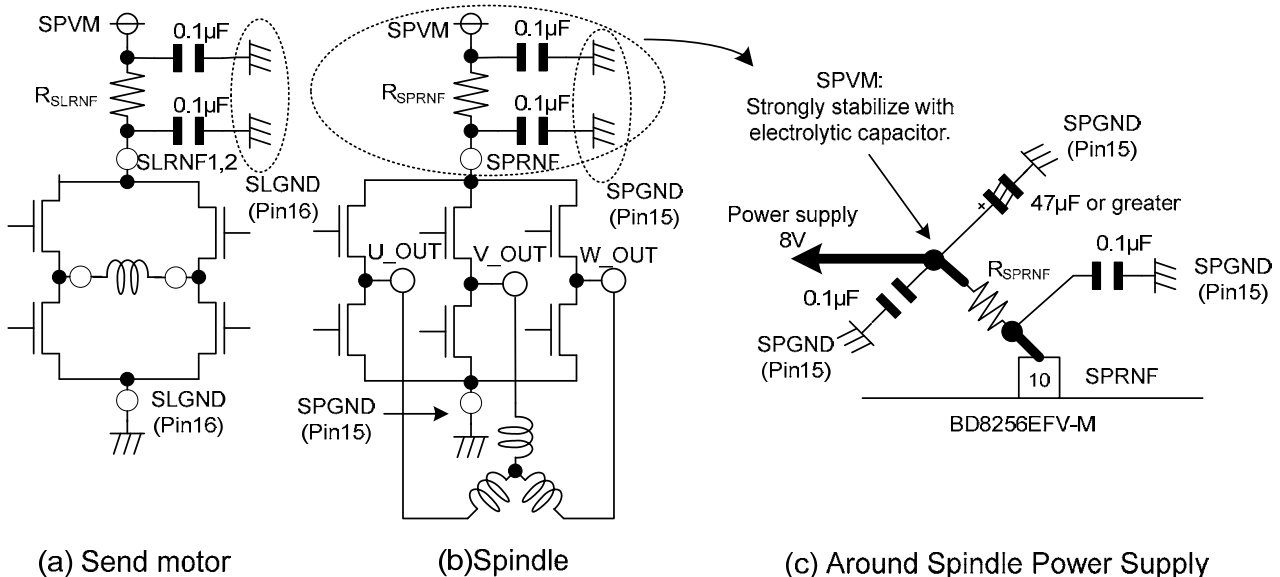

Figure 29. Position of Ceramic Capacitors
- (2) Provide a low ESR electrolytic capacitor between the power terminal and the ground terminal of the driver to achieve strong stabilization. Provide a ceramic capacitor with good high frequency property next to the IC. Also provide a ceramic capacitor with good high frequency property between RNF and GND. (Figure 29) Then power supply ripple due to PWM switching and spindle motor rotation can be reduced.